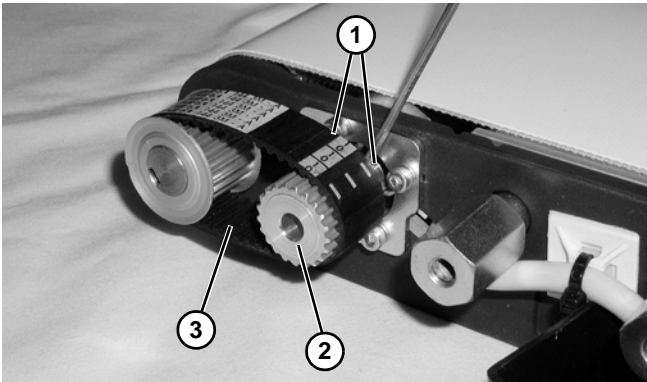

Figure 71
- Loosen two set screws (**Figure 71, item 1**) on drive pulley (**Figure 71, item 2**). Slide drive pulley outward off of gearmotor shaft and remove timing belt (**Figure 71, item 3**).